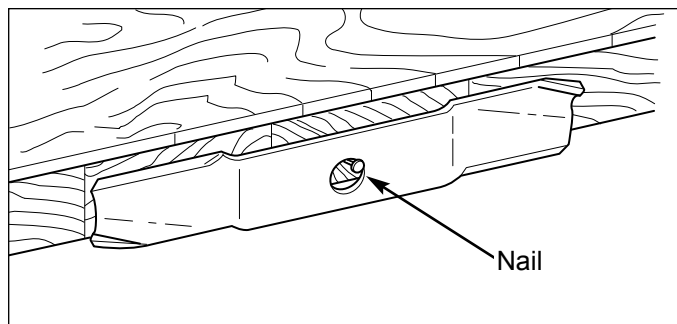

Figure 16. Balancing The Blade
4. Balance the blade as shown in Figure 16. Center the blade's hole on a nail lubricated with a drop of oil. A balanced blade will remain level.